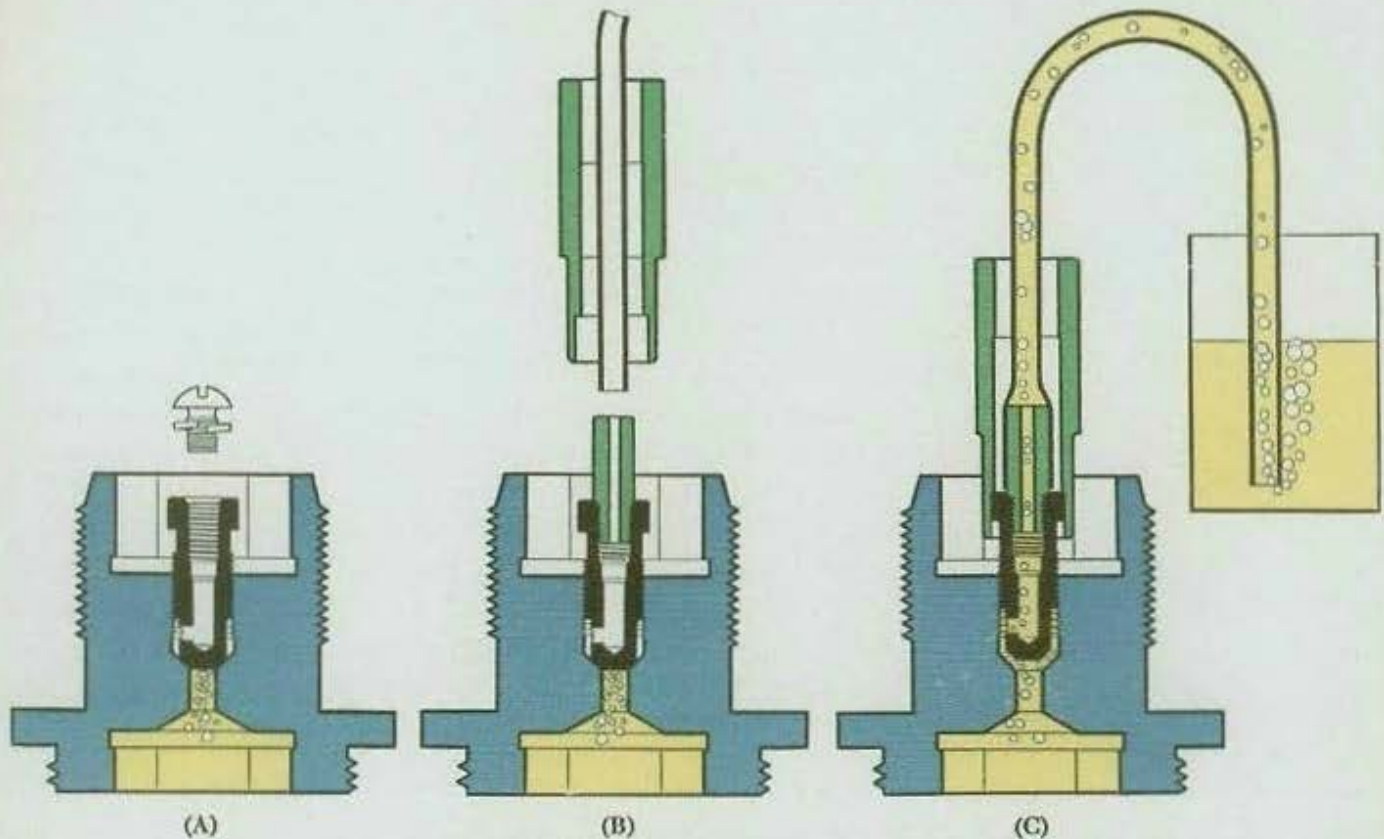

Figure 51—Bleeding ram air vent valve
Remove ram air vent valve screw (12-Z-8-270) and lock washer (OE-1293), (A), Figure 51 and install in their place in air vent valve (299930-4) bleeder fitting (299992-3). Place bleeding pipes (299993-7 and 299992-4) on the fitting and slip $\frac{3}{8}$ " socket (299995-2) over the hose so that it can turn valve (299930-4), (B), Figure 51. Hold the free end in a suitable clean container, raise the carriage several inches by pumping one of the pedals, and open the valve slightly. See (C), Figure 51. Operate one pump slowly at least five strokes. Then operate the other two pumps in the same manner. **Never bleed off more than one quart of oil at one time.** When a quart is bled off, close the air vent valve and pour the bled oil back into the tank.